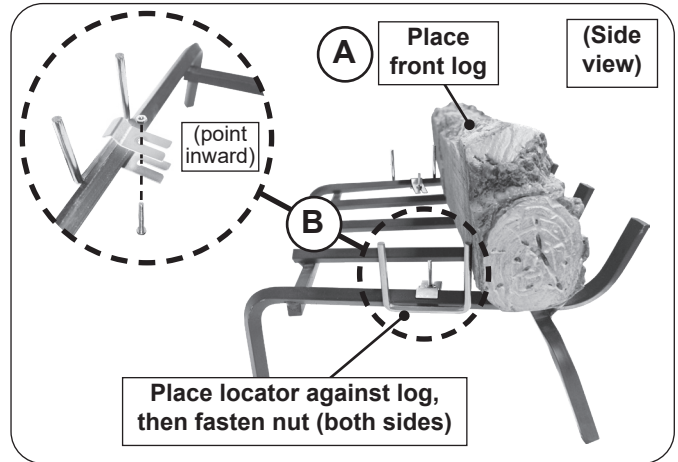
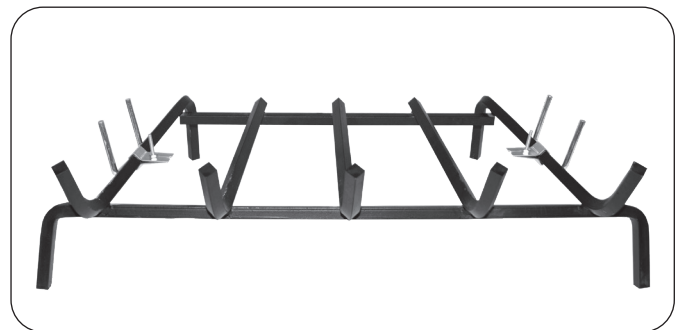

Fig. 18-1 Attach log locators to grate
Fig. 18-2 Log locators attachment detail
2. Temporarily place the front log at the front of the grate as shown in Fig. 18-1, A (to correctly determine the log locator position).
3. Attach the log locators to the 2 outer bars of the grate using the provided screws and nuts. See Fig. 18-1, Fig. 18-2, and the guidelines below.